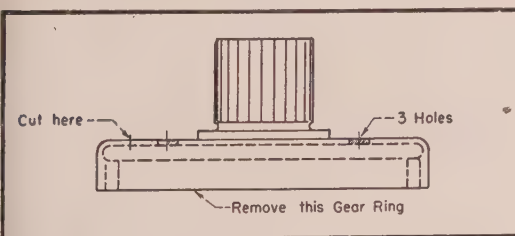
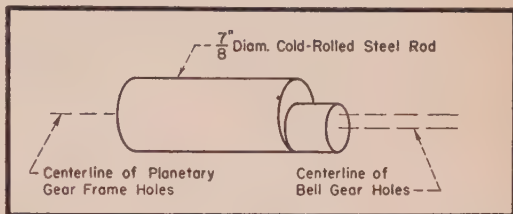

Fig. 5. The modification of the bell gear in the prop pitch motor.
Fig. 6. Off-center pins are needed for the bell gear, as explained in the text.
Dick chucks the bell gear (M) in a lathe and cuts the internal gear off just *inside* the ring of holes encircling the gear. I suggest that you cut the teeth off just *outside* these holes, say $\frac{1}{4}$ " away, thus leaving the ring of holes on the center section of the bell gear (Fig. 5). Now, if the bell gear is dropped over the differential gear, it will be seen that the three large $\frac{3}{8}$ " holes in the differential gear fall in axial alignment with the holes drilled in the bell gear. Three special off-center pins can be turned easily in a lathe that will engage the three holes in the bell gear with those in the differential gear (Fig. 6). The three pins may be fastened to the differential gear by means of $\frac{1}{4}$ -28 bolts tapped through the side wall of the gear frame. The bell gear will now drop over these off-center pins and provide a very strong power transfer. The danger of using common bolts at this point is that there is a tendency for the bolts to work loose in the soft aluminum of the differential gear. These special pins solve this problem very nicely. Since you need a lathe to cut the bell gear, anyway, you might as well turn out the pins and do the job up brown. Right?